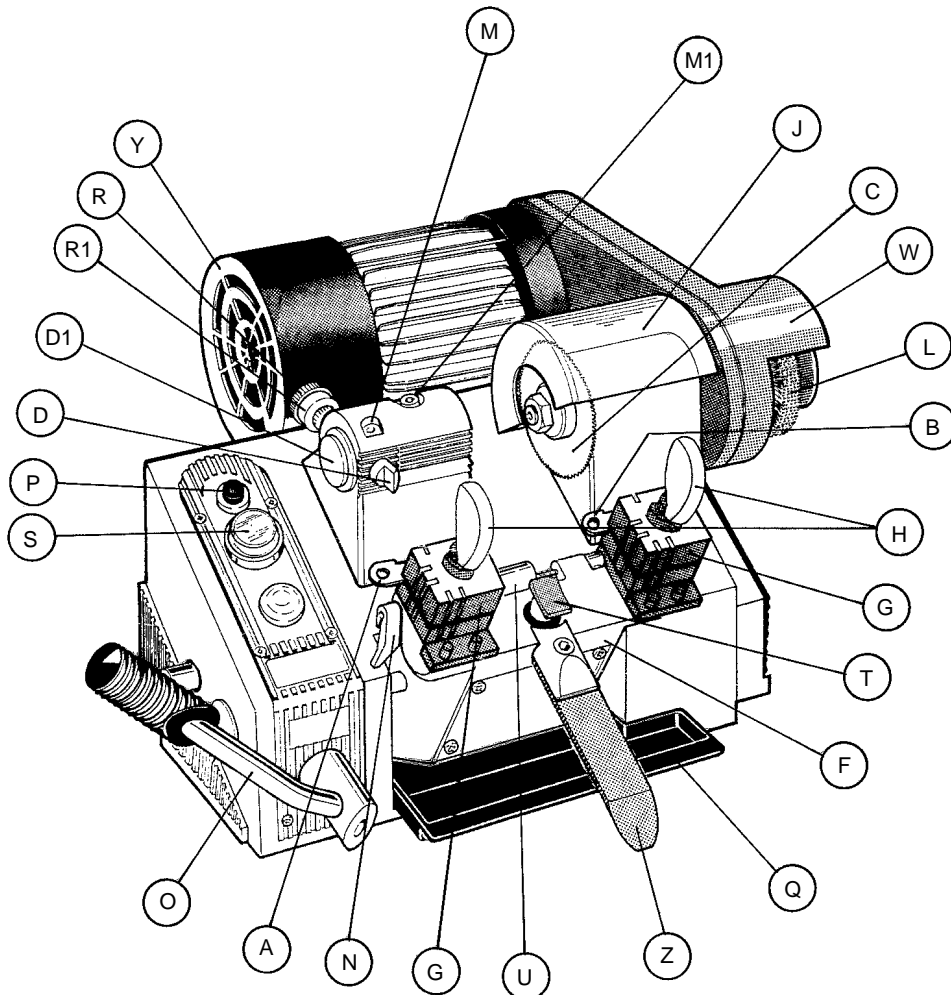

Fig. 1
- 3) Make sure that the main switch is in the Off position. On/Off switch is the letter (S) in the diagram. (fig. 1, page 2).